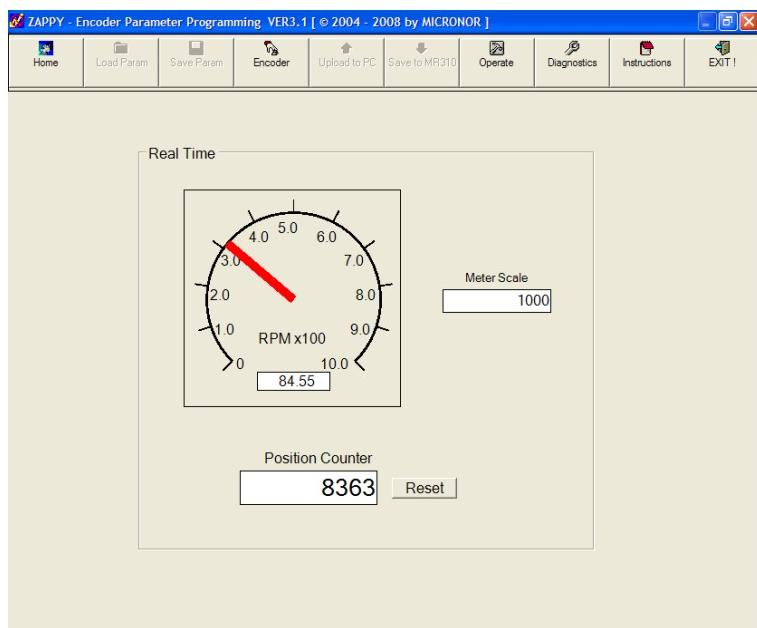

Figure 17. Real-time Encoder Operation viewed via OPERATE Screen.
- STEP 2: An initial check would be to deliberately and semi-precisely turn the encoder shaft for one revolution and note if the correct number of counts is displayed. (HINT: A little adhesive tape flag formed around the encoder shaft would provide some degree of finger control.). An active [OPERATE] screen is also shown in Figure 17.